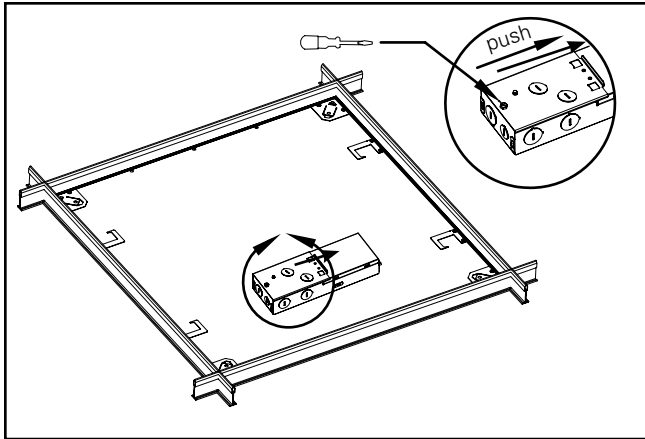

Figure 6.
8. Tuck all wires and wire nuts into the fixture junction box, replace electrical access plate, and snap securely into place (Fig. 6).